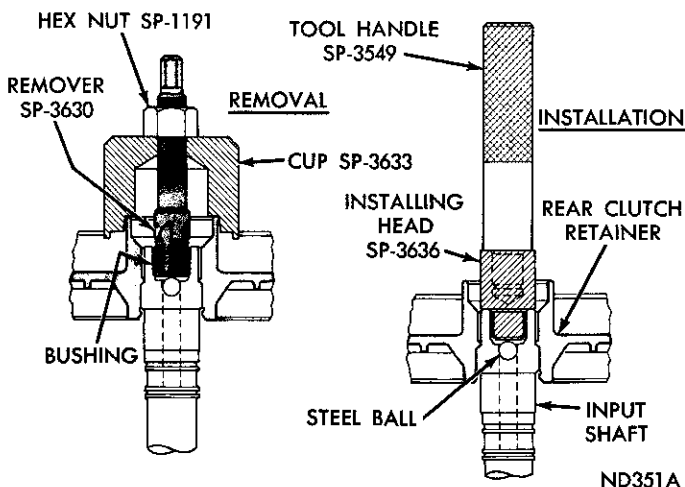

Fig. 61—Replacing Input Shaft Bushing (A-727)
(1) Clamp input shaft in a vise with soft jaws, being careful not to clamp on seal ring lands or journals.
(2) Assemble remover Tool SP-3630, cup Tool SP-3633, and hex nut Tool SP-1191.
(3) With cup held firmly against clutch piston retainer, thread remover into bushing as far as possible by hand (Fig. 61).
(4) Using a wrench, screw remover into bushing 3 to 4 additional turns to firmly engage threads in the bushing.
(5) Turn hex nut down against cup to pull bushing from the input shaft.
(6) Thoroughly clean input shaft to remove chips made by remover threads. Make certain small lubrication hole next to ball in end of shaft is not plugged
(7) Slide a new bushing on installing head Tool SP-3636, and start them in bore of the input shaft.
(8) Stand input shaft upright on a clean smooth surface and install handle Tool SP-3549 in the installing head (Fig. 61). Drive bushing into shaft until tool bottoms.
(9) Thoroughly clean input shaft and clutch piston retainer before assembly and installation.